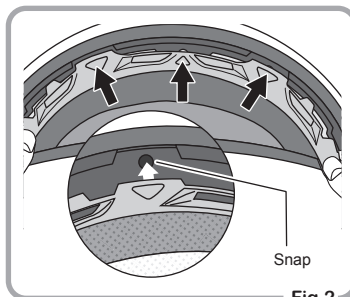

Fig.2
- ② Insert the 3 snaps on the front as shown in Fig.2.